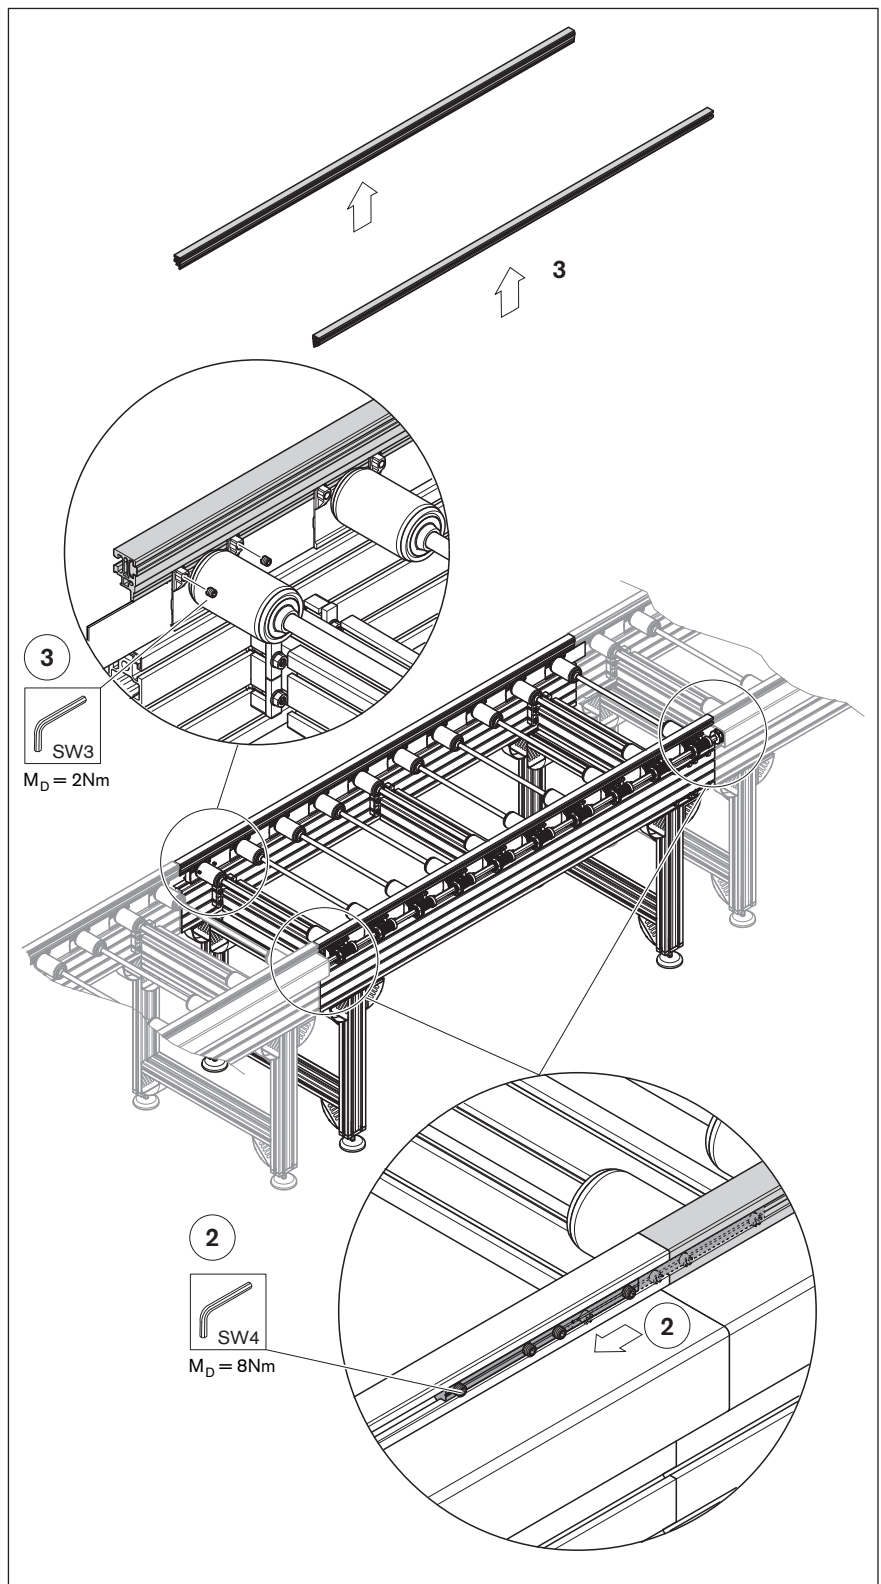

Fig. 80 Replacing the roller (2/3)
7. Hook the friction clutches in the bearing pedestals, swivel the king shaft back in (☞ Fig. 80: A, B).